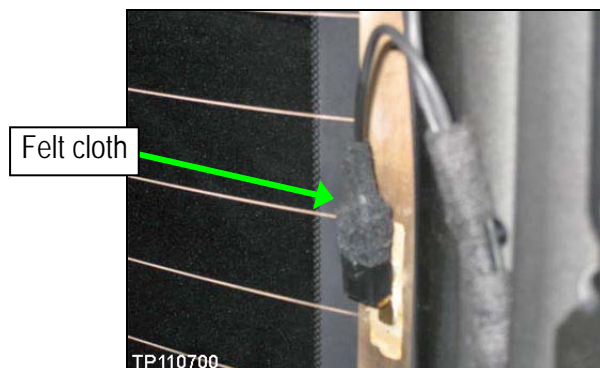

Figure 30
31. Cut two 50 mm pieces from the tape role, and then wrap one on each rear window defogger connector (see Figure 30).